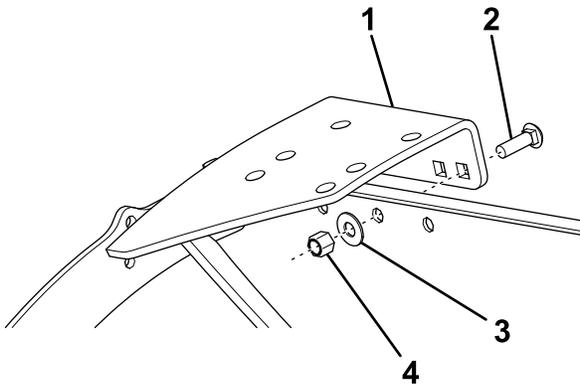

**Figure 14**
4. On the left side of the plow, drill a hole (7/16 inch) at the location shown in Figure 14.